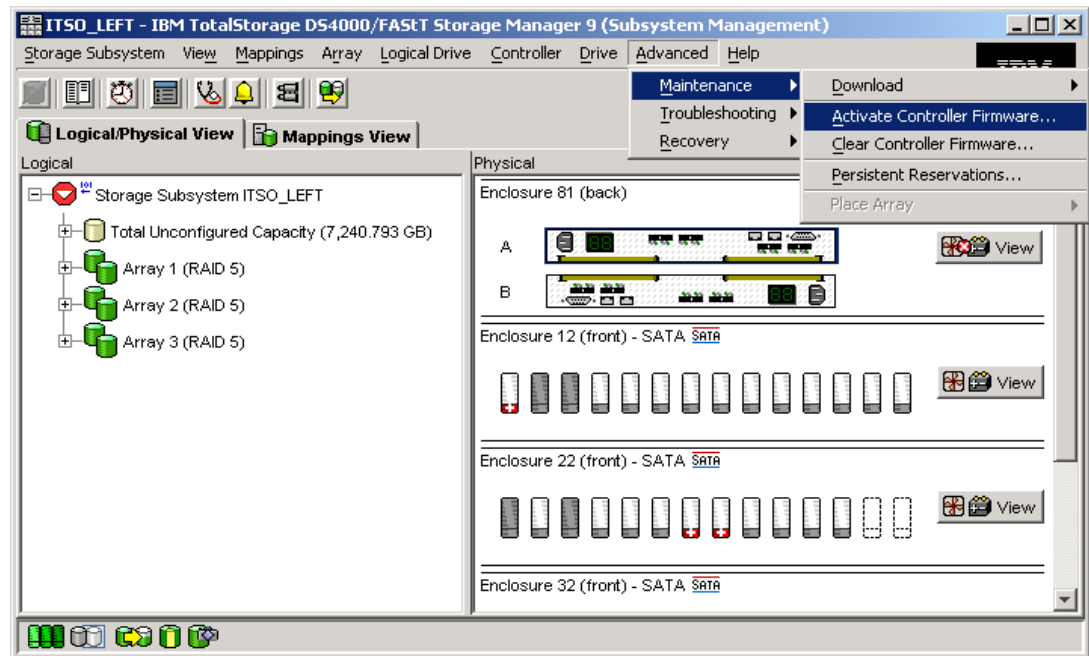

Figure 3-33 Subsystem Management window - Firmware activation
- To activate the new firmware, select **Advanced** → **Maintenance** → **Activate Controller Firmware**, as shown in Figure 3-33.